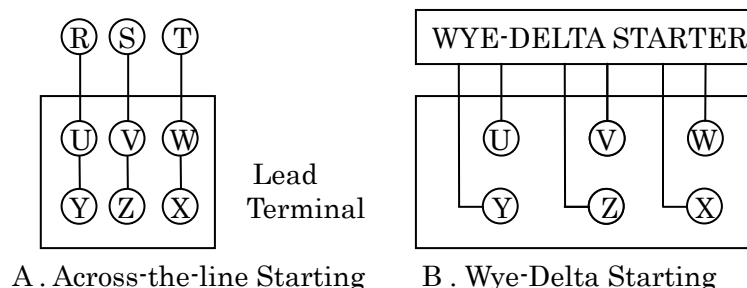

Fig. 2 Connection of lead wires
- For connection between the power cable and lead wires of motor, please refer to “Fig.2”.